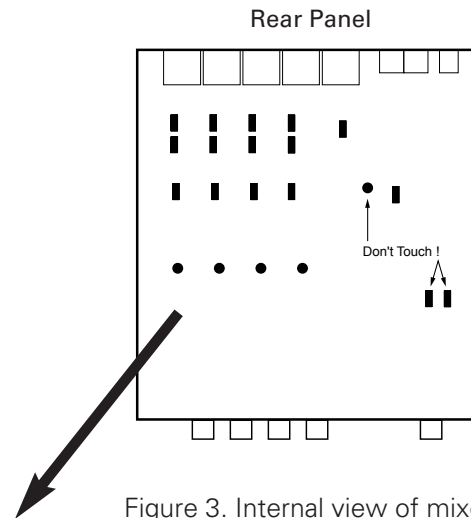

Figure 3. Internal view of mixer.
The SmartMixer has a substantial gain range, allowing it to accept a wide variety of microphones. However, if in some instances higher-output microphones are used for close talking, it may be necessary to reduce the preamplifier gain. This can be done by changing switch settings inside the unit. With the unit unplugged, remove the two screws on each side of the unit and remove the top cover. Locate the internal switches designated on the circuit board by “S103,” “S203,” “S303” and “S403” (Figs. 3 and 4, page 8). Changing the settings of these internal switches will cause a gain reduction of 10 dB for channels 1, 2, 3 and 4 respectively.
The SmartMixer’s output is factory set at line level. Should mic-level output be desired, simply unplug the unit, remove the top cover and locate the switch on the circuit board marked “S501” (Figs. 3 and 4, page 8). Changing the setting of this switch will cause a 50 dB reduction in output.
Each of the SmartMixer’s inputs supplies +12V DC phantom power. Should it be required to disable the phantom power, simply unplug the unit, remove the top cover and locate the switches designated on the circuit board by “S102,” “S202,” “S302” and “S402” (Figs. 3 and 4, page 8). Changing the settings of these switches will disable phantom power on channels 1, 2, 3 and 4, respectively. Note that, although they do not require phantom power for operation, most balanced-output dynamic microphones can be used without disabling the SmartMixer’s phantom power.
The Output Level LED meter is factory set to indicate RMS output. Should peak output indication be desired, simply unplug the unit, remove the top cover and change the setting of the switch designated on the circuit board by "S602" (Figs. 3 and 4). "Zero" (0) level is factory-calibrated at +4 dBm into 600 ohms.
In instances when the number of microphones in use is high, it may be necessary to increase the amount of "off" attenuation per microphone to keep the total ambient noise level low. There are "off" attenuation adjustments inside the unit. To adjust the "off" attenuation of channel 1, unplug the unit, remove the top cover and locate the trimpot designated on the circuit board by "VR102" (Figs. 3 and 4). It is factory set at approximately 8 dB, the attenuation at the middle of the control's rotation. When the control is turned fully counter-clockwise, "off" attenuation is approximately 20 dB. Conversely, when the adjustment is turned fully clockwise, "off" attenuation is approximately 6 dB. VR202, VR302 and VR402 control "off" attenuation for channels 2, 3 and 4 respectively.